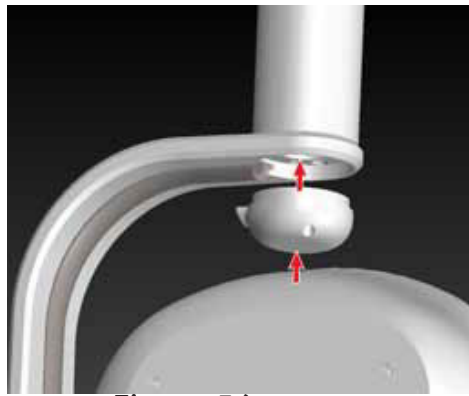

Figure 56
- Remove the rubber plugs of the wire cup using tweezer and then remove the wire cup on the L-arm by removing the 2 M3X30 HSHC screws using 2.5mm allen key as shown in Figure 56.